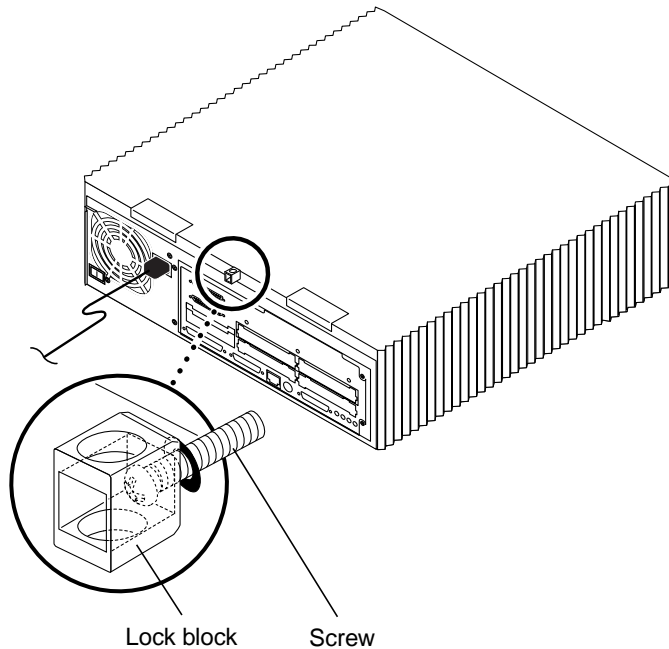

FIGURE 2-2 Location of Lock Block
1. Use a Phillips screwdriver to remove the lock block (if installed) on the cover (FIGURE 2-2).